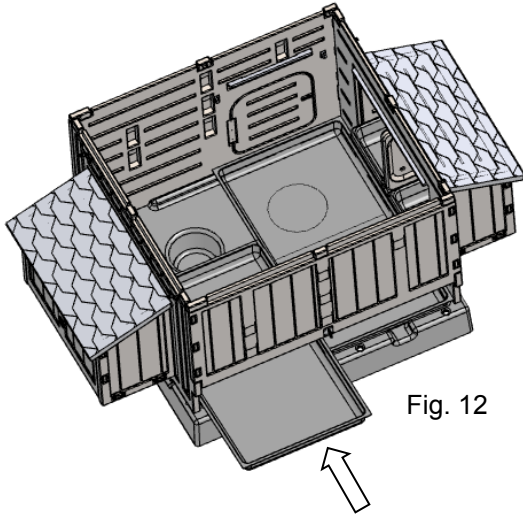

Fig. 12
**Step 12:** Slide the two Litter Trays into place. (Fig. 12)